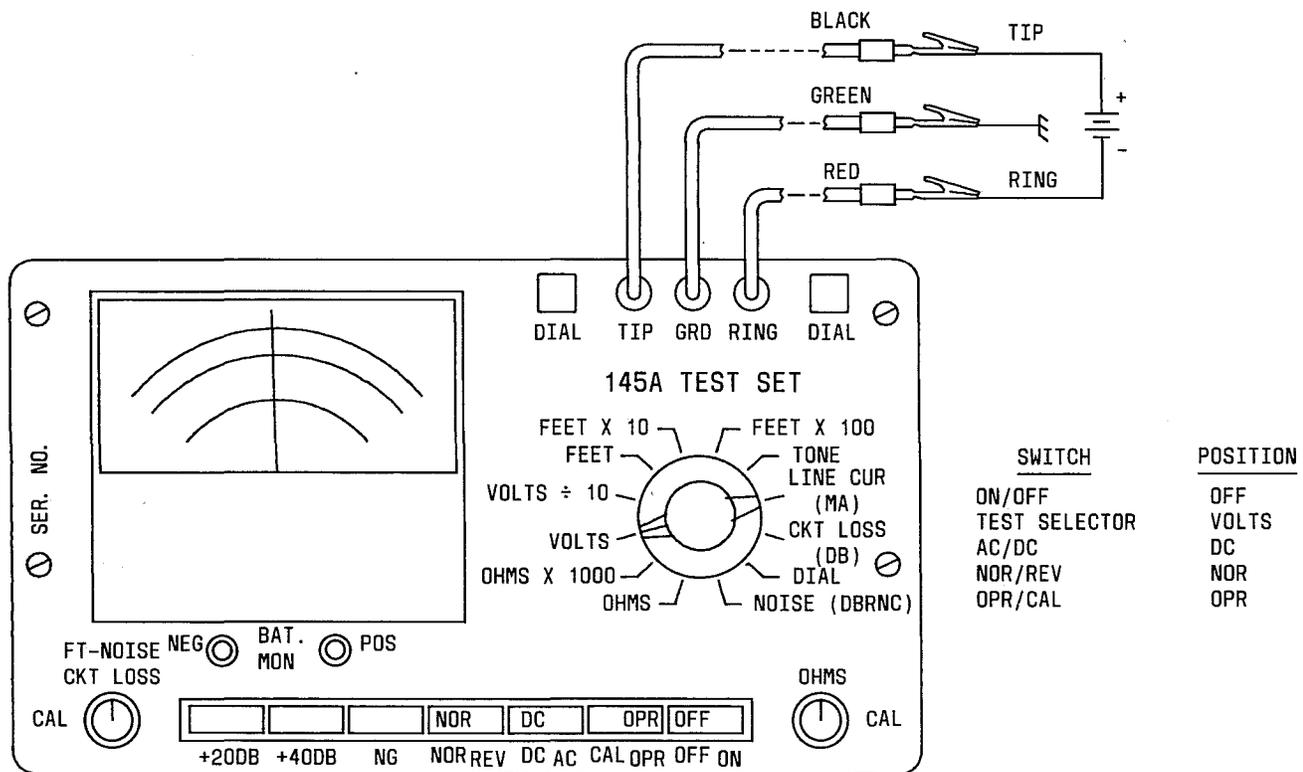

Fig. 6—DC Voltage Testing
4.03 DC Voltage Testing (Fig. 6): The following steps must be used when making this test: